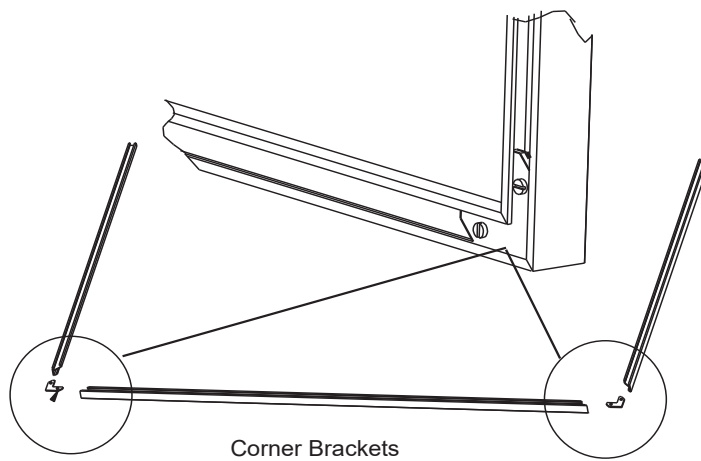

Figure 22.1
2. Assemble trim as shown in **Figure 22.1**.
4. Lift surround assembly to front of appliance (**Figure 22.1**).